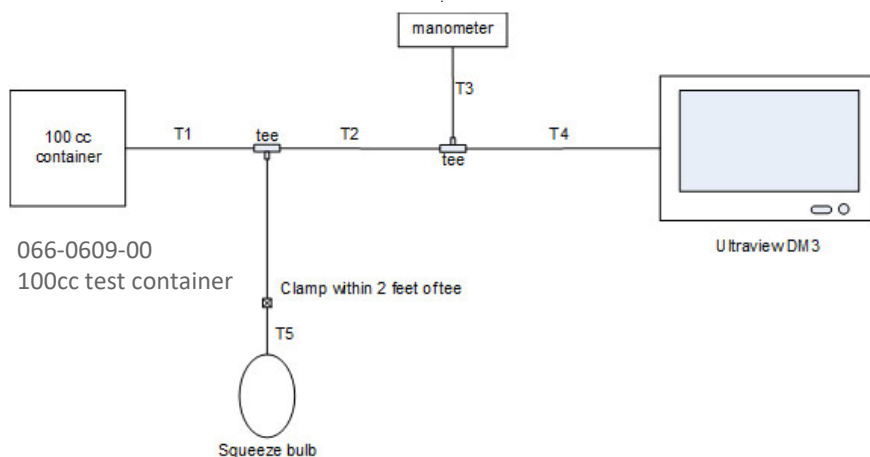

Figure 5-2 Calibration/Leakage Test Setup
- 1 Connect the NIBP test fixture to the NIBP port on the monitor, as shown in Figure 5-2.
The length of the tubing (P/N 166-0011-xx) connecting the 100cc container, manometer, bulb, and monitor (shown as T1+T2+T3+T4 in Figure 5-2) must not exceed 0.61 meters (20 inches). No restrictions apply to the length of the tubing T5 (P/N 162-0019-xx).